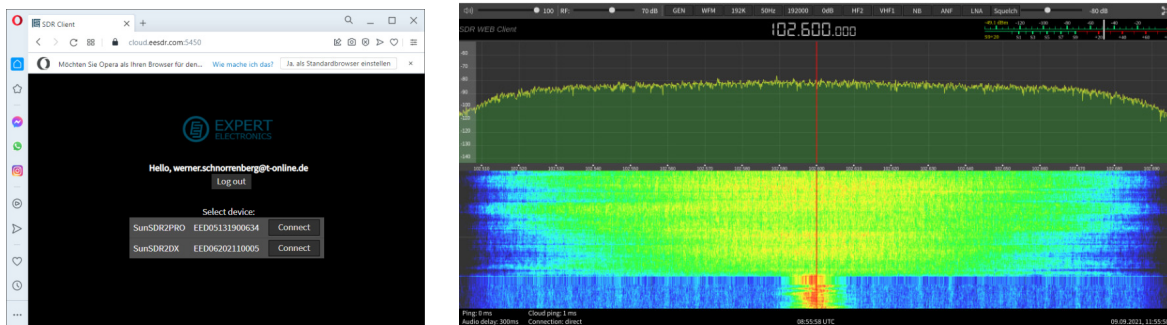

Figure 13: Radio opened via a Web-Browser on PC or Smartphone/Tablet
a) After entering the URL <https://cloud.eesdr.com:5450.auth.html> in a browser (Opera), all radios connected to the cloud are displayed in a menu and can be started via "Connect" (Fig. 13, left). Since the connection works via the WEB, Smartphones or Tablets can also be used as clients.